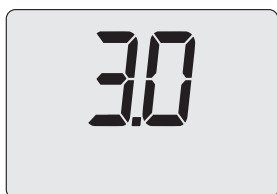

Figure 9.27
- By using buttons 15 or 16 (Figure 9.18) it is possible to modify the value of parameter A54 (Figure 9.27).